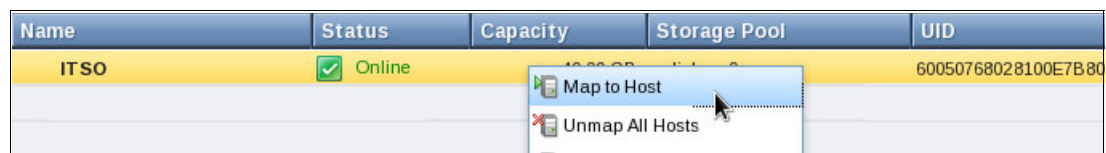

Figure 2-39 Volume mapping
- In the Volumes window, right-click the volume and select **Map to Host**, as shown in Figure 2-39.